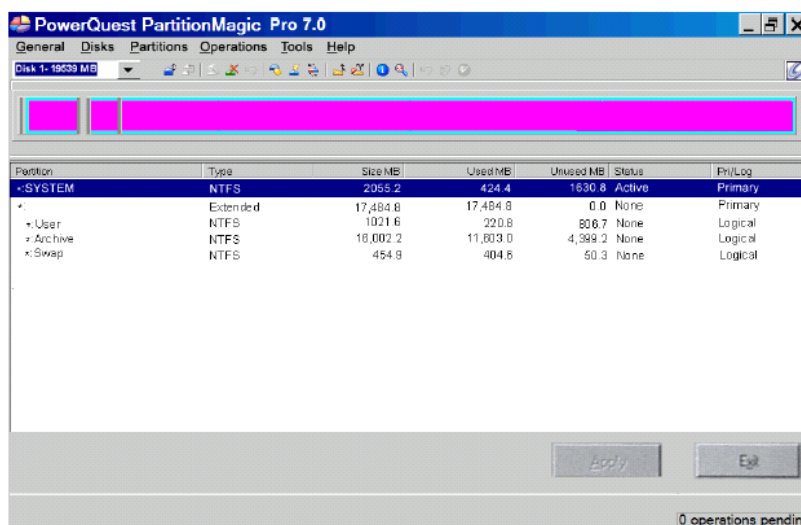
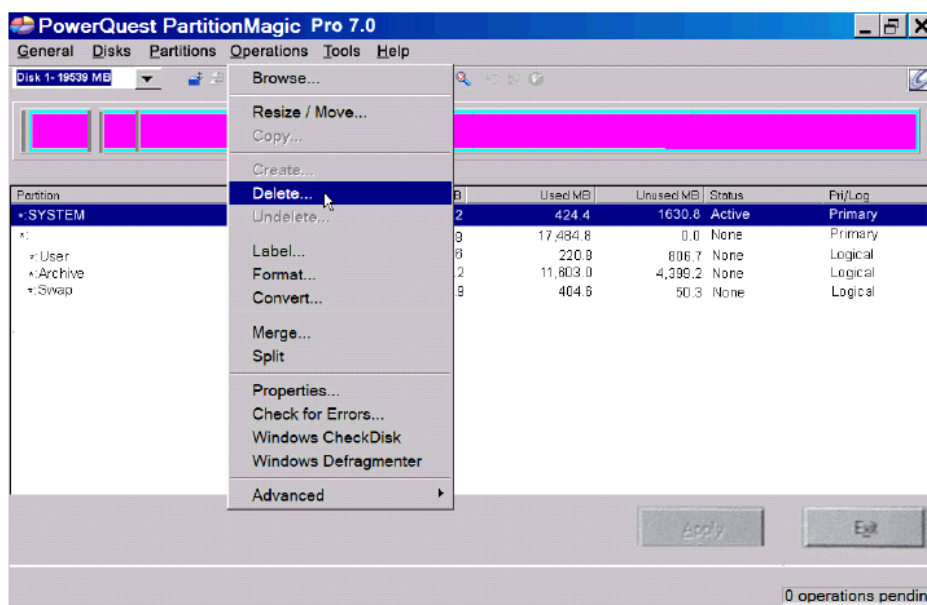

Figure 8-127 Partition Magic Screen
Figure 8-128 Operations Menu
- 10) With the *System* partition selected (highlighted, as shown in Figure 8-127), delete the partition by selecting the **Delete** Tool under the *Operations* menu, as shown in Figure 8-128 below: